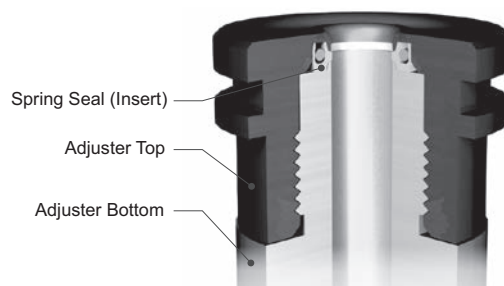

Figure 58: Adjuster Top Assembly
- viii. Inspect Adjuster Top to make sure that Spring Seal (Adjuster Top) did not flare out during installation and that the Spring Seal (Adjuster Top) is oriented as shown in Figure 58.
- ix. Inspect Adjuster Top to make sure that Spring Seal (Adjuster Top) did not flare out during installation and that the Spring Seal (Adjuster Top) is oriented as shown in Figure 58.